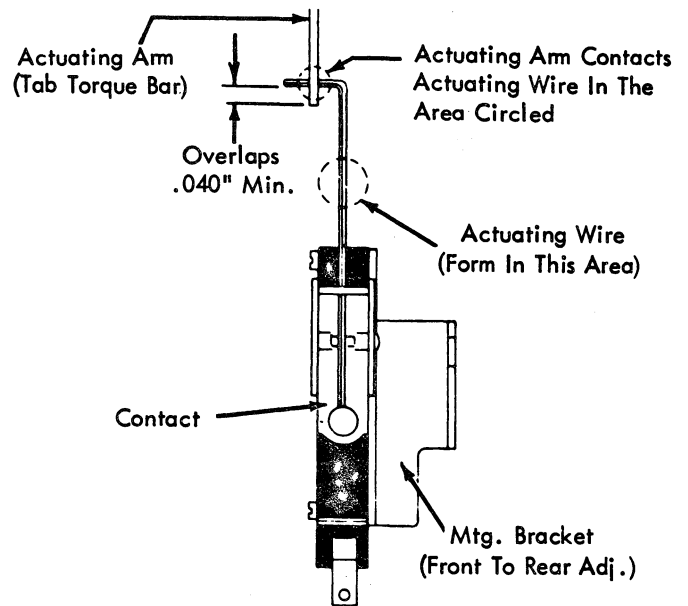

FIGURE 243. Interlock Contact
- Form (in circled area) the actuating wire (left or right) so that it contacts the actuating arm near the right angle bend (Fig. 243).
- With the tab interposer released and the backspace cam on its high point, position the mounting bracket (front to rear) so that the actuating arm overlaps $.040''$ minimum the actuating wire (Fig. 243). This insures that the actuating wire does not get above the actuating arm.